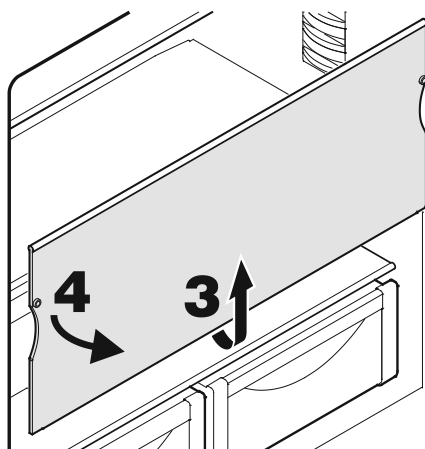

Figure 15
Removing the shelves - Figure 15
- Remove glass shelves as shown in **Figure 15**.